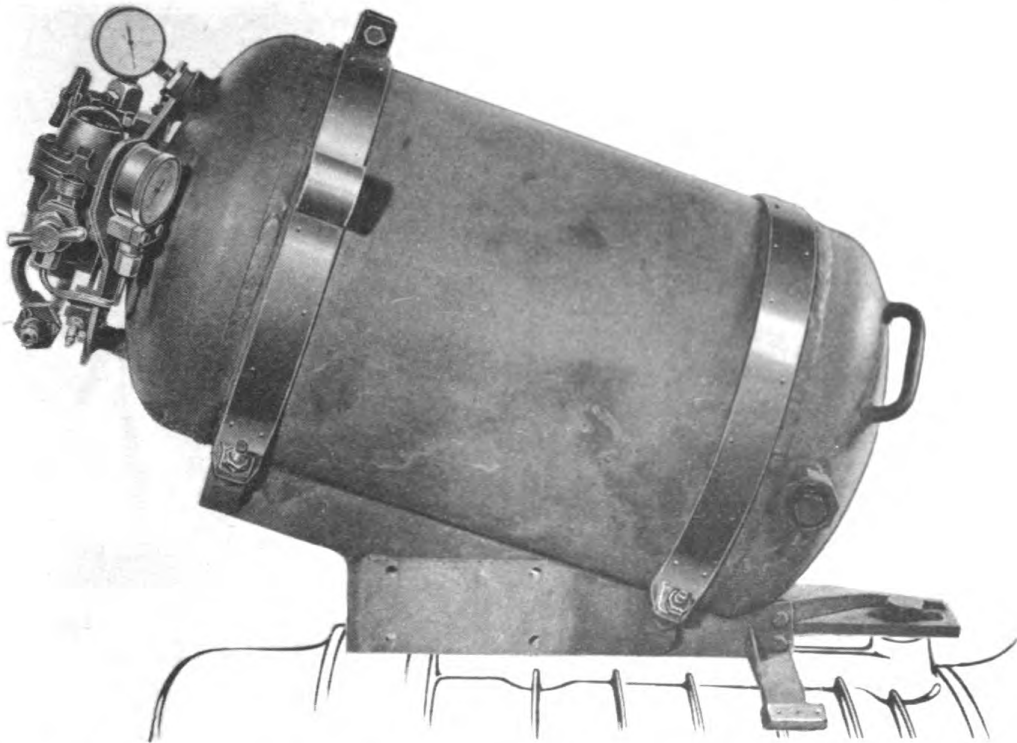

Fig. 33. Fuel container, fuel container straps, and pressure line plate installed on transmission fuel group baseplate.
d. Pressure line plate. (1) Replace synthetic rubber washer in recess of male fitting of fuel container pressure inlet union.
(2) Hold pressure line plate at end of fuel container. Insert three stud bolts through holes in plate and engage them in threaded bosses in order to hold pressure line plate to fuel container (fig. 33). Check alinement of pressure line union with half union on fuel container. Nut must engage threads on half union fully without necessity of forcing.
(3) Tighten all three stud bolts uniformly.
(4) Tighten nut on pressure line union.